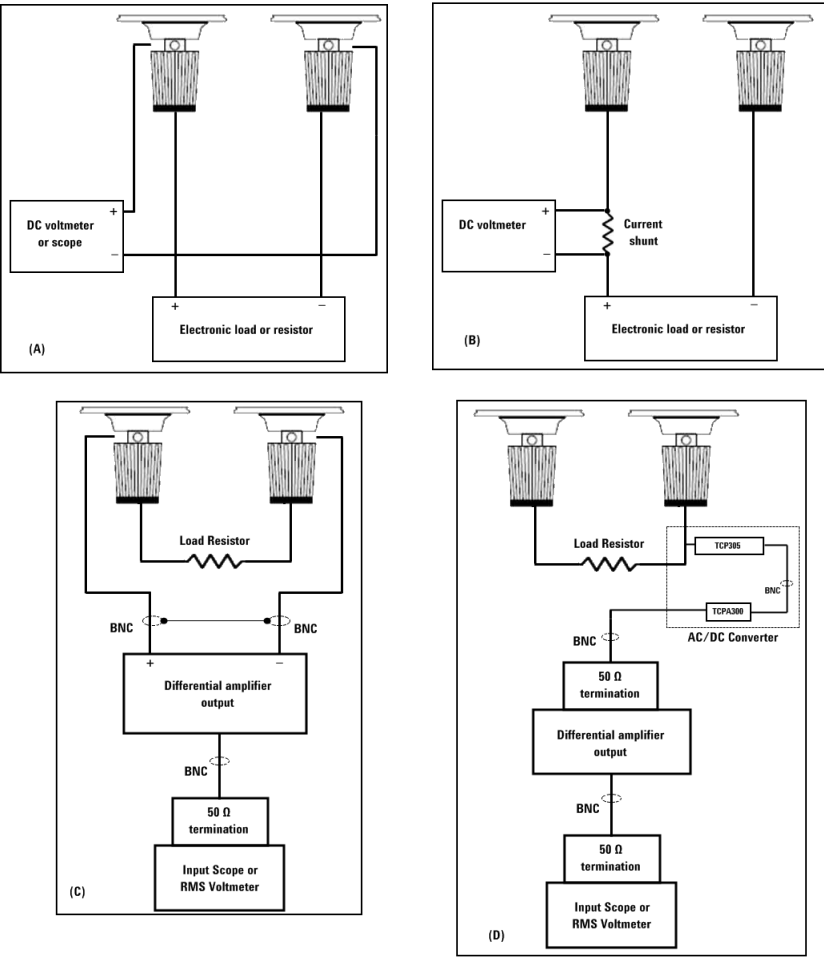

Figure 5-2 Test setups
- 1** Power off the power supply and connect a DMM between the (+) and (–) terminals of the output to be tested. Remove the electronic load or resistor block as shown in Figure 5-2\(A\), to operate as an open circuit.
- 1** Power off the power supply and connect a DMM between the (+) and (–) terminals of the output as shown in Figure 5-2\(A\).
- 1** Power-off the power supply and connect a DMM between the (+) and (–) terminals of the output to be tested as shown in Figure 5-2\(A\).
- 1** Power off the power supply and connect the output to be tested as shown in **Figure 5-2(C)** to a differential amplifier and load resistor (10 Ω for U8001A and 6 Ω for U8002A)
- 1** Power off the power supply and connect the output to be tested as shown in Figure 5-2\(A\) with an oscilloscope. Operate the electronic load in constant current mode.